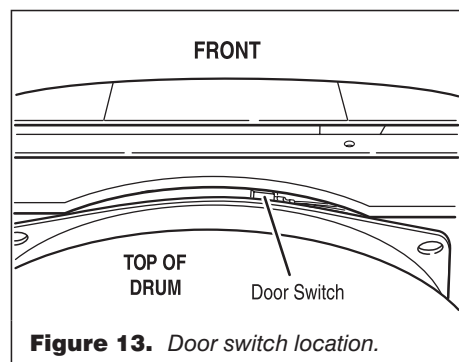

Figure 13. Door switch location.
- Check that the wires between the door switch and machine control electronics are connected. See figure 13 for switch location.